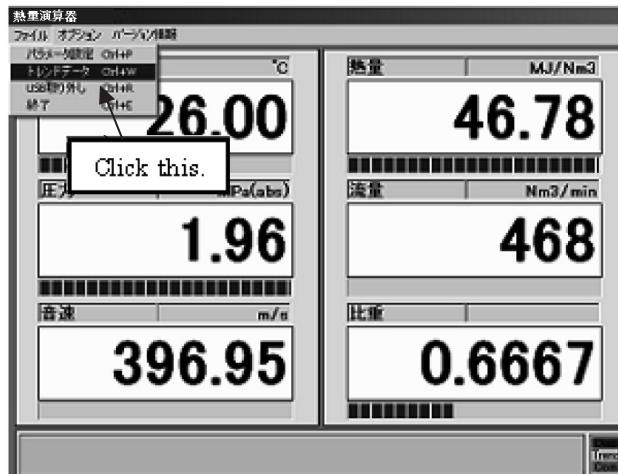

Fig. 9.5.5 Trend data
- Click [ファイル] [File]. The screen as shown in Fig. 9.5.5 appears. Here, click [トレンドデータ] [Trend data].